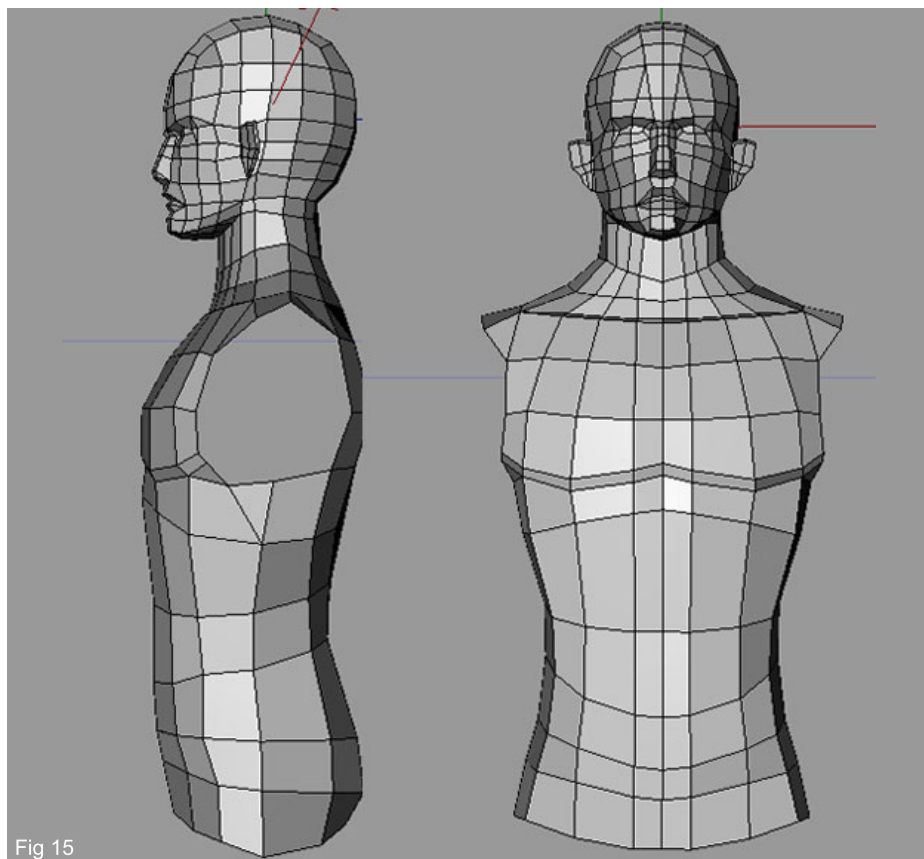

Fig 15
15. Now manipulate the new vertexes into positions that form the shape of the lower torso and top of the buttocks (Fig 15). Move the verts first in the front view and then in the profile view, etc... The illustration shows the profile and front view.